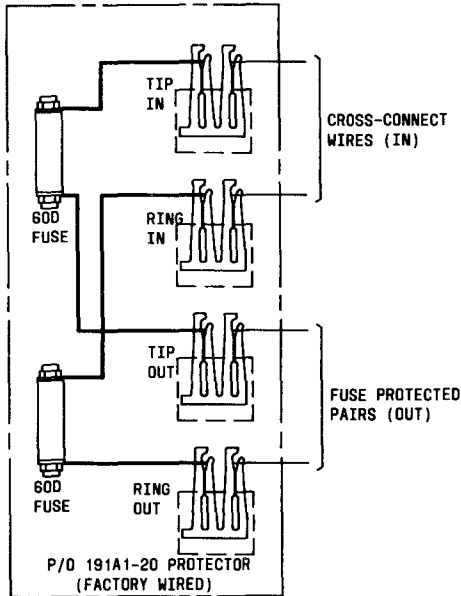

Fig. 66—191A1-20 Protector—Wiring Diagram
10.07 A wiring diagram of the 191A1-20 protector is shown in Fig. 66. Pairs requiring sneak